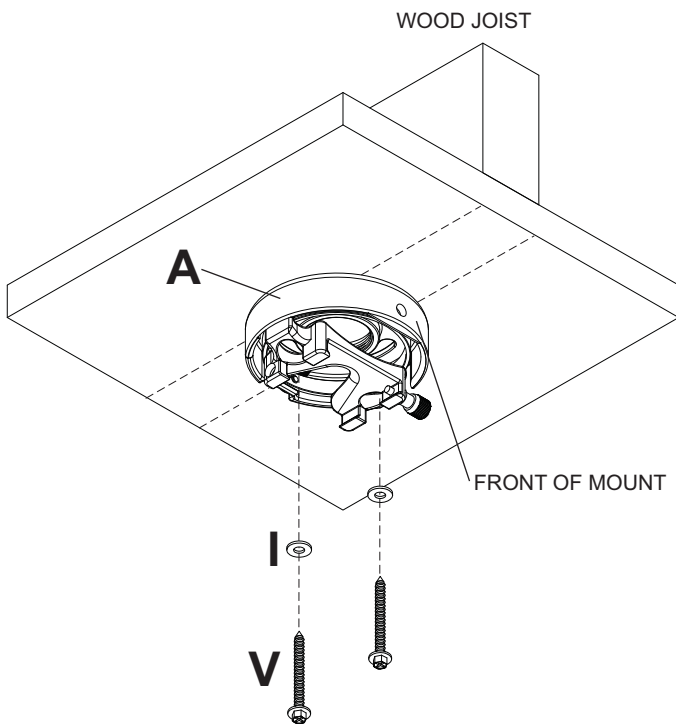
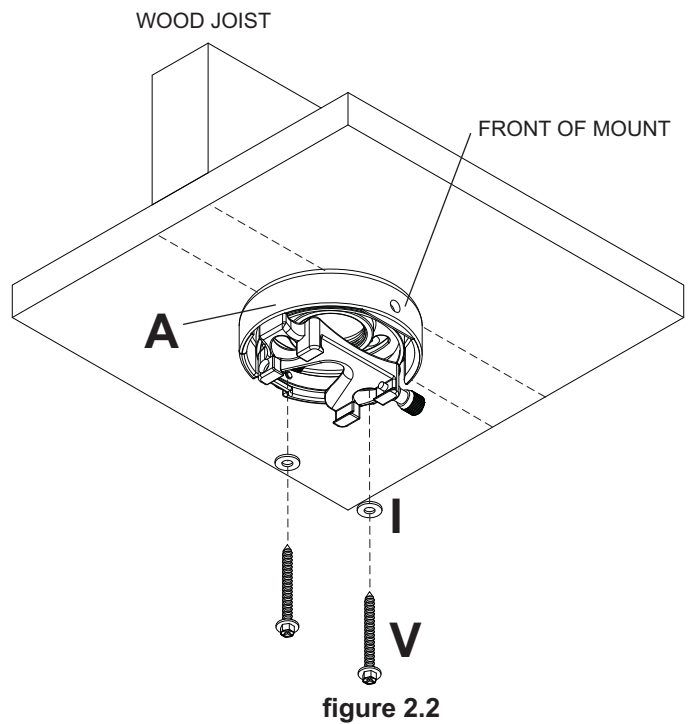

figure 2.1
figure 2.2
**2** Place projector mount assembly (**A**) on ceiling as a template and mark the center of the two mounting holes. Make sure that the mounting holes are in the center of the wood joist. Drill two 5/32" (4 mm) dia. holes to a minimum depth of 2.5" (64 mm). Attach projector mount assembly (**A**) with two #14 X 2.5" (6 mm x 64 mm) wood screws (**V**) and two flat washers (**I**) as shown in **figure 2.1** or **figure 2.2** depending on joist orientation.